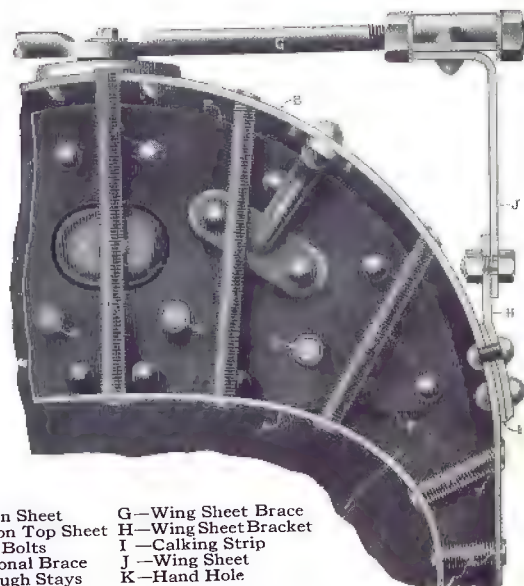

Fig. 2
*The Longitudinal Seam on the Shell of Case Boilers* is of the *triple-riveted butt and double-strap type*. This style of joint has a much higher efficiency, and consequently greater strength than the old style lap joint which is still used on many other makes of boilers. Many of the boiler laws have forbidden the use of lap joints on the longitudinal seams of boilers, while others have penalized them by requiring a higher factor of safety to be used in figuring the working pressure. All of the laws approve the butt and double-strap type of joint as being the best construction. (See Fig. 2.) The best is none too good for Case. In the old style lap joint the center lines of the plates do not meet. (See Fig. 1-A.) When pressure is applied to the boiler shell, these lines tend to come to a true circle, causing a bending action in the plates near the rivet lines each time the pressure is applied. (See Fig. 1-B.) This continual slight bending of the plates will, in time, crystallize the metal and develop cracks beneath the surface, inside the calking edge, as shown in Fig. 1-C. These cracks greatly reduce the strength of the plate, and being hidden are difficult for even the most skilled inspectors to detect, and are the cause of many boiler explosions. With the butt and double-strap joint, all danger from this source is eliminated.